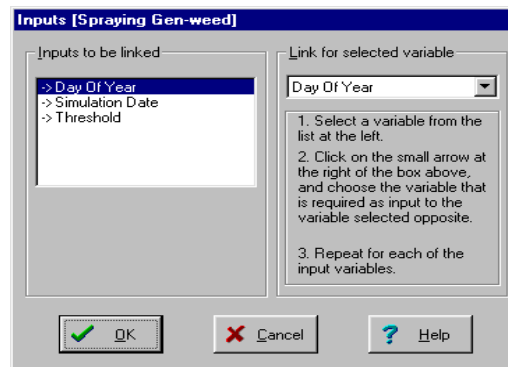

Figure 13.4 Event 'Link' window
5. Select the '**Inputs**' button and obtain the link window (Figure 13.4);